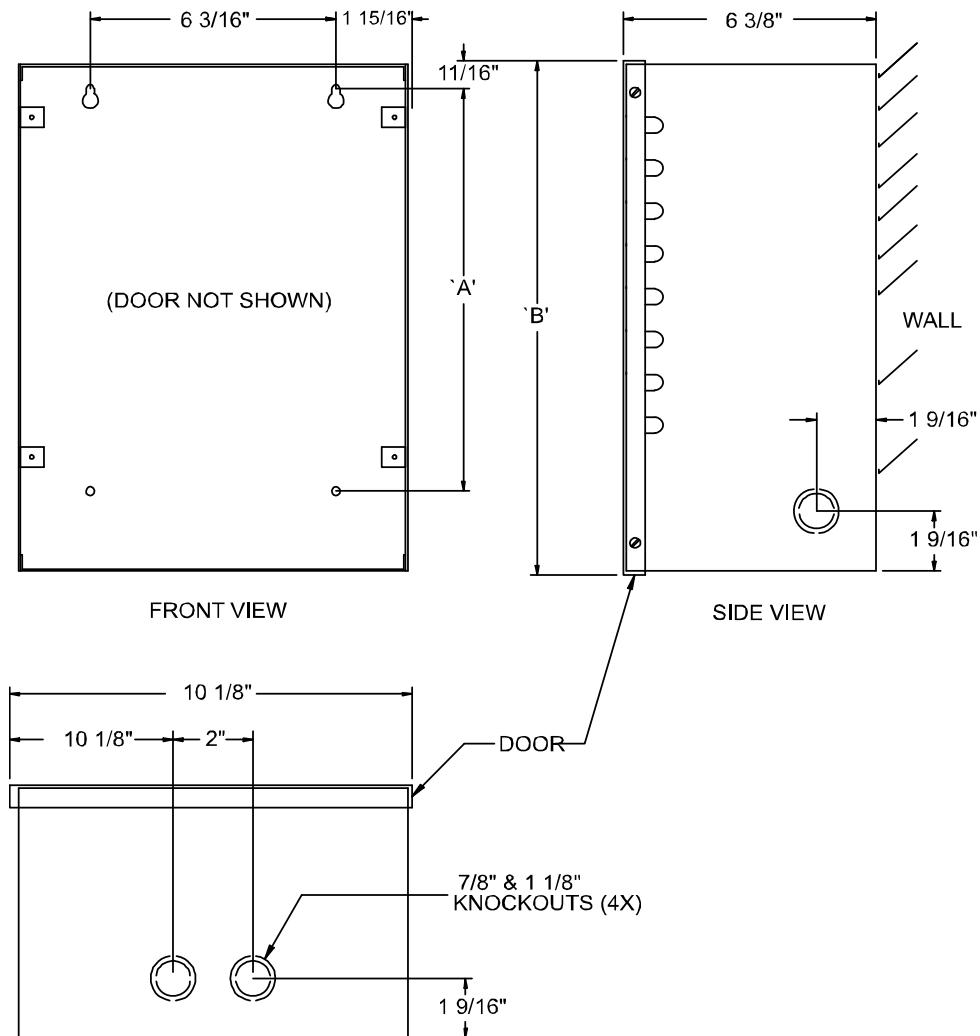

Figure 19. NSL Relay Cabinet
The TX3-8EC NSL Expander includes the 13 15/16 inch enclosure. The TX3-NSL-8M Relay Cabinet includes the 27 inch enclosure. The TX3-16EC NSL Expander includes the 27 inch enclosure. See Figure 19 and Table 2.
1. Using the back cover as a template mark the top two mounting hole locations 6 3/16 inches apart as shown in Figure 19.